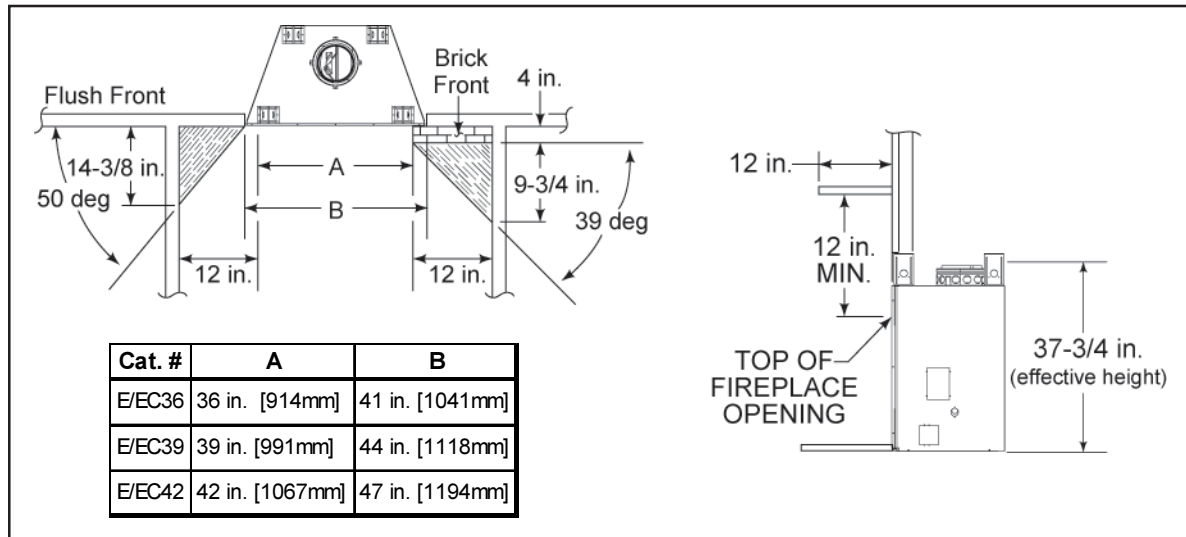

Figure 6 - Sidewalls and Surrounds
Adjacent combustible side walls must be located a minimum of 12 in. from the fireplace opening. See Figure 6. If you are using a decorative surround constructed of combustible material, it must be located within the shaded area defined in Figure 6. Short stub walls are also acceptable if they are contained within the shaded area.
- The effective height of the fireplace assembly is measured from the base of fireplace to top of starter collar. See Figure 6.